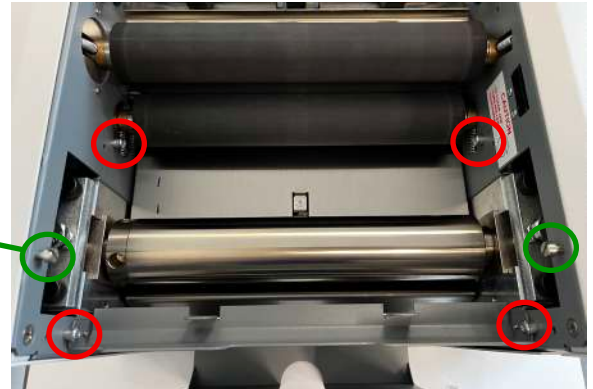

Fig. 1c
2. Locate mounting notches on the fold table (Fig. 1b) and the fold mounting pins on the unit (circled in red, Fig. 1c).
3. Slide the fold table into position guiding it under the cover support pins (circled in green, Fig 1c). When the fold table meets the pins press down firmly on the fold table to lock it into position.